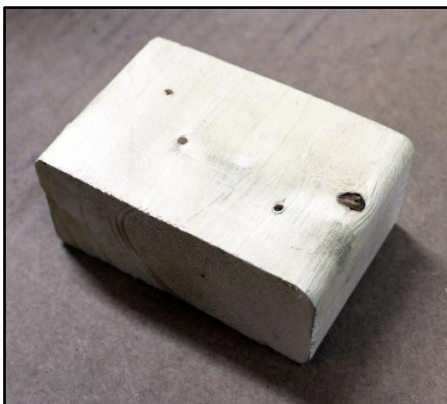

Figure 9
11. To prevent the sleeve from rotating when the spool is tightened, fabricate a suitable wooden block to insert between the filter adapter and a suitable point of resistance on the engine or airframe. Because installations differ, the block may not look exactly like the block shown in Figures 9 and 10. However, it should fit snugly between the sleeve and an adjacent structurally sound part of the engine or airframe that is able to resist the turning forces encountered without being damaged when the spool is tightened.